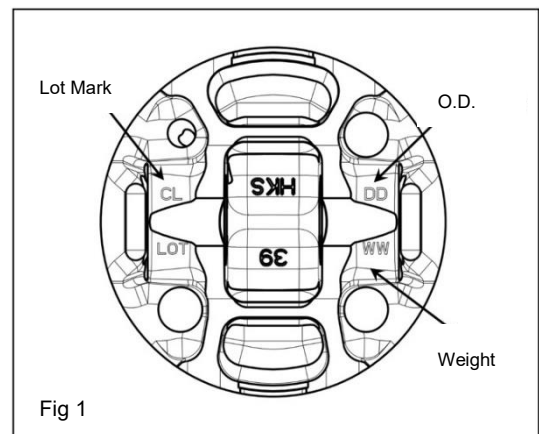

Fig 1
2.1 Confirm the O.D. of the piston skirt on the back of the piston. The diameter is between 86.455 to 86.465mm. The last 2 numbers of the 3 digits after the decimal point are shown on the back of the piston. (e.g.: If the O.D. is 86.460mm, "60" is shown on the back of the piston.) (Fig 1)